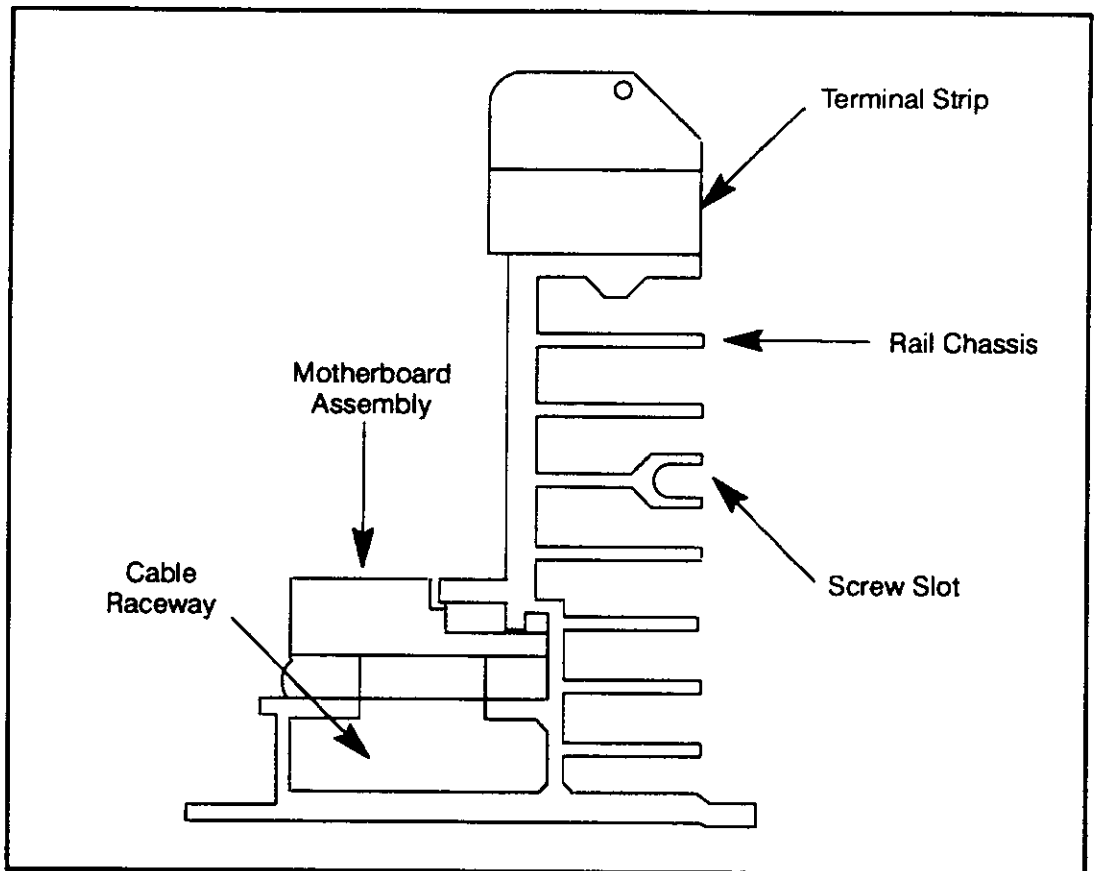

Figure 2.2 - I/O Rail (Top View)
- Step 2. Connect the I/O Rail Interconnect Cable between the rail and the AutoMate processor, Local I/O Head, Remote I/O Head, Local I/O Processor, a Distributed Power PMI Processor, or DCS 5000/AutoMax Remote I/O Head. The cable is 48 inches (1.2 m) long. Be sure the cable will reach the rail as you design your installation. Place the cable in the rail's cable raceway. See figure 2.2.